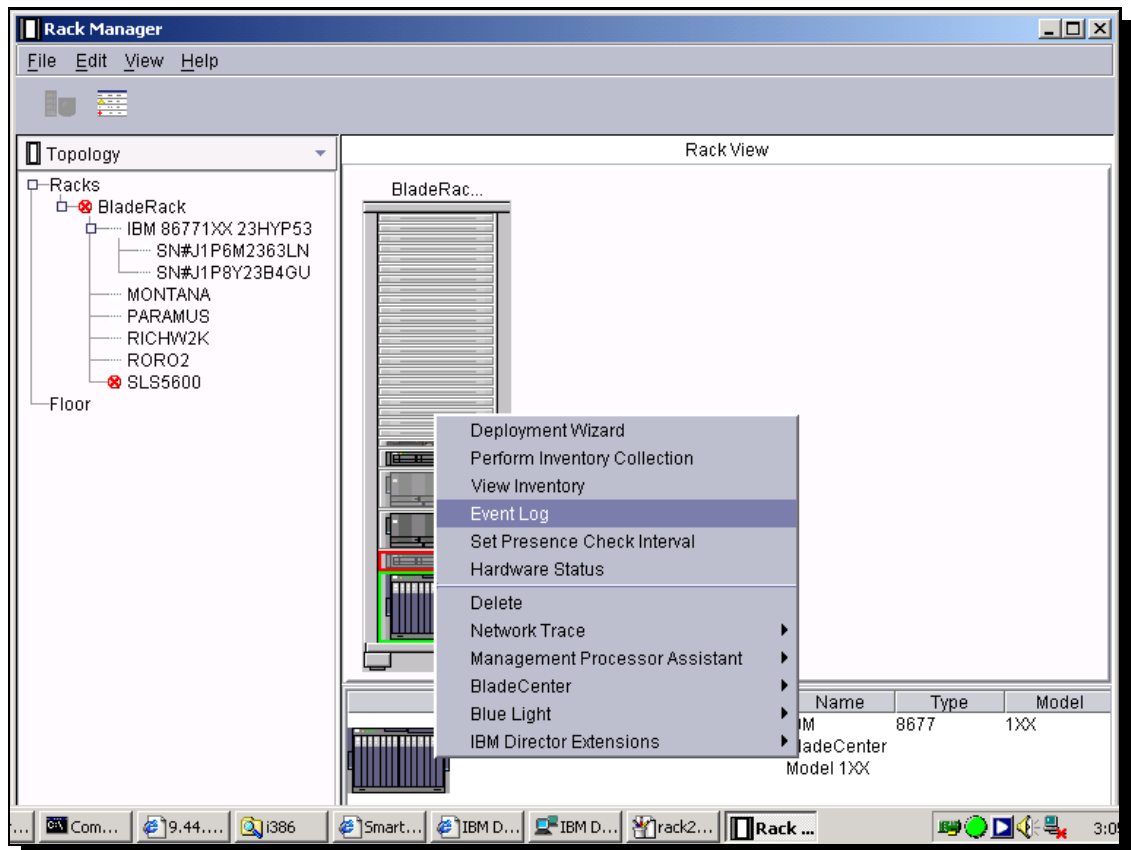

Figure 6. Rack Manager console
- Rack Manager** provides a realistic graphical view of the devices in a rack. This view shows information such as rack membership and physical placement of the chassis in the rack. This capability can be useful for planning rack layouts. The intuitive drag-and-drop graphical interface provides a quick, comprehensive view of system topology and status that can be absorbed in a single glance, without the need for complex commands. In addition, Rack Manager provides an updated status of BladeCenter bays as blades are inserted and removed. Rack Manager can even be used as a general-purpose console for IBM Director, allowing an administrator to drop IBM Director tasks onto rack objects for execution. Rack Manager also provides detailed information about the health status of the rack and its contents. (For example, objects change color to indicate issues requiring attention.) *Figure 6* shows the Rack Manager user interface.